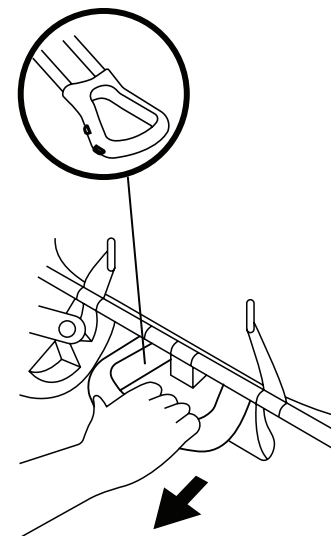
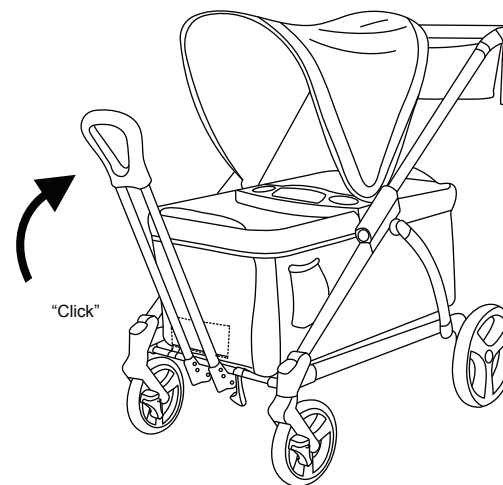

Fig. 7a
Fig. 7b
- 7) • **TO USE THE HANDLE:** Locate the handle underneath the frame and press the release button to unlatch. Pull the bar completely out of the frame (Fig. 7a). Rotate up to desired position (Fig. 7b).
- **TO PUT IT AWAY:** Reverse step (Fig. 7a) ensure to push the handle completely in until it clicks into position. **NOTE:** Ensure the handle is resting on the storage hooks (Fig. 7c).